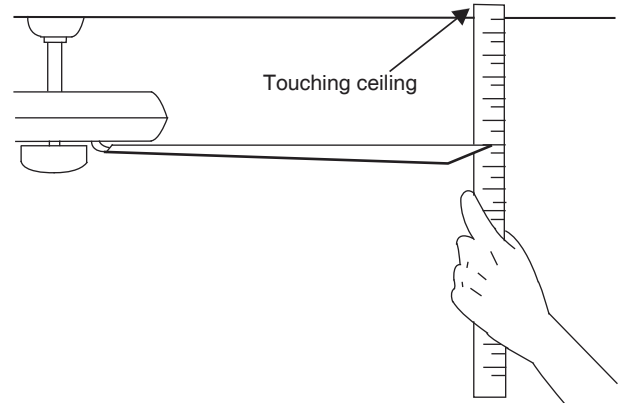

Fig. 19
2. Most fan wobble problems are caused when blade levels are unequal. Check this level by selecting a point on the ceiling above the tip of one of the blades. Measure from a point on the centre of each blade to the point on the ceiling. Measure this distance as shown in Fig. 19. Rotate the fan until the next blade is positioned for measurement. Repeat for each blade. Measurements deviation should be within 1/8" (3.2 mm). Run the fan for 10 minutes.